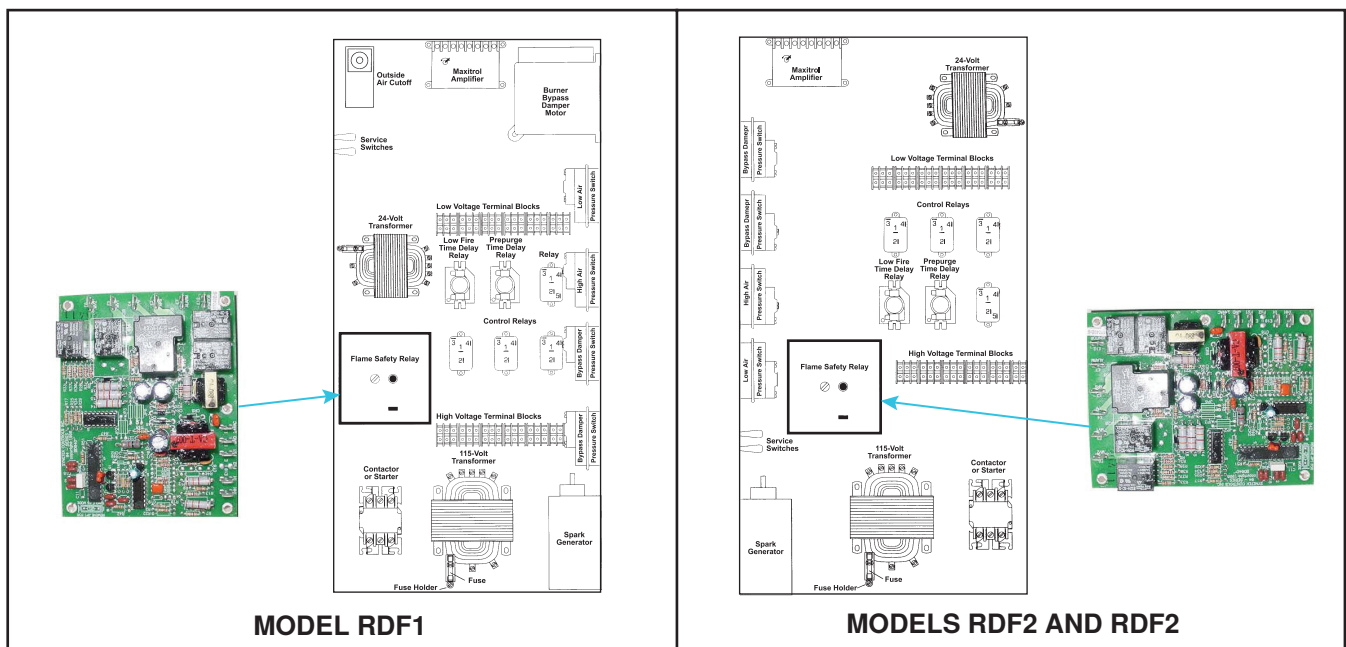

Figure 56. Ignition Controller Replacement
3. Replace flame safety relay with ignition controller (see **Figure 56**):